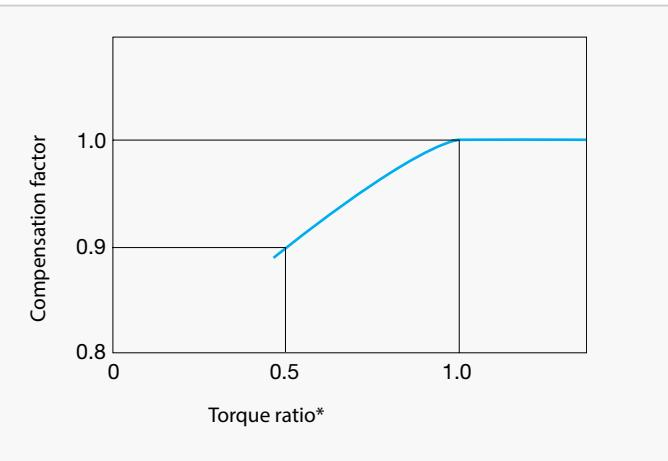

Fig. A4 Compensation curve for efficiency
- The efficiency changes if the load torque does not match the nominal torque. Check the compensation factor in the diagram Fig. A4.
- When the torque ratio is over 1.0, the compensation factor for efficiency is 1.0 (diagram Fig. A4).